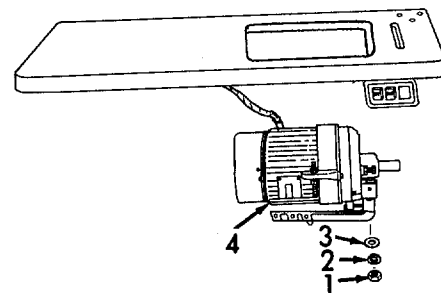

Figure 6-83. Electric Motor, Removal.
a. *Removal (Refer to Figure 6-83).*
- (1) Tag and disconnect wiring from motor.
- (2) Remove four nuts (1), four lockwashers (2), four washers (3), and motor assembly (4).